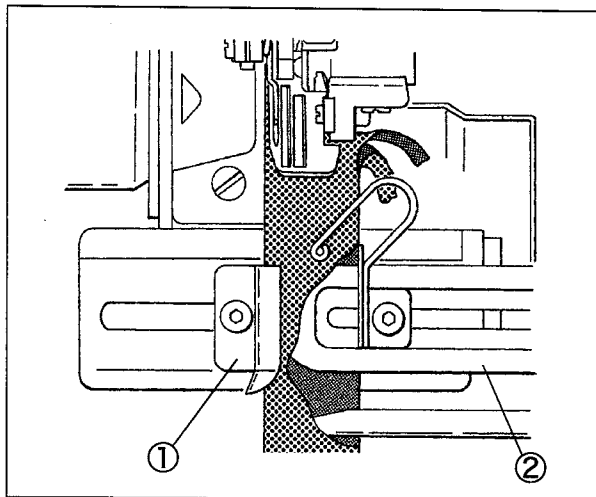

Fig. 22
- (1) Push the toggle switch by the knee to open the fabric guide ① and the folder ②.
- (2) Place a rib-knitted fabric correctly referring to Fig. 22.
- (3) Again push the toggle switch to close the fabric guide ① and the folder ②.
- (4) Heel back the pedal to raise the presser foot and place the rib-knitted fabric on each roller.
- (1) Push the toggle switch by the knee to open the fabric guide① and the folder②.
- (3) Again push the toggle switch to close the fabric guide① and the folder②.
- (4) Heel back the pedal to raise the presser foot and place the rib-knitted fabric on each roller. Put the body part of fabric on it.
- (5) Press the pedal to lower the presser foot and start sewing.
- (6) When the start of sewing comes to the folder② closely, push the toggle switch to open the folder②, then sew the fabric to finish.